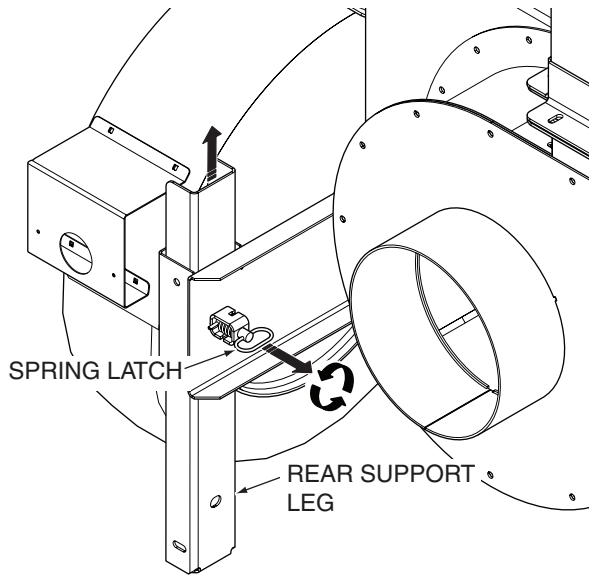

Figure 4-3. Raising the Rear Support Leg
7. Pull and turn the spring latch to unlock the pin securing the rear support leg in the lowered position. See Figure 4-3.